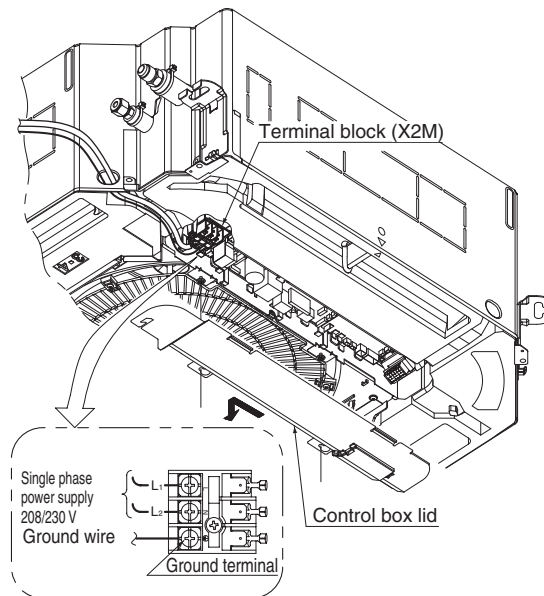

Fig. 21
1. Open the control box lid and connect the single phase 208 - 230 V power supply to the terminal (L₁, L₂) on the terminal block (X2M). Connect the ground wiring to the ground terminal. (Refer to Fig. 21)